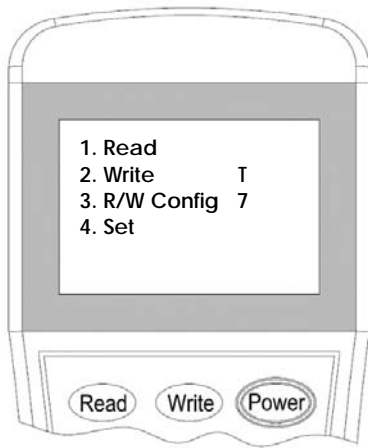

Figure 14
3. Switch-on the programmer, then press button **"3"** to enter to Configuration mode (Figure 14).